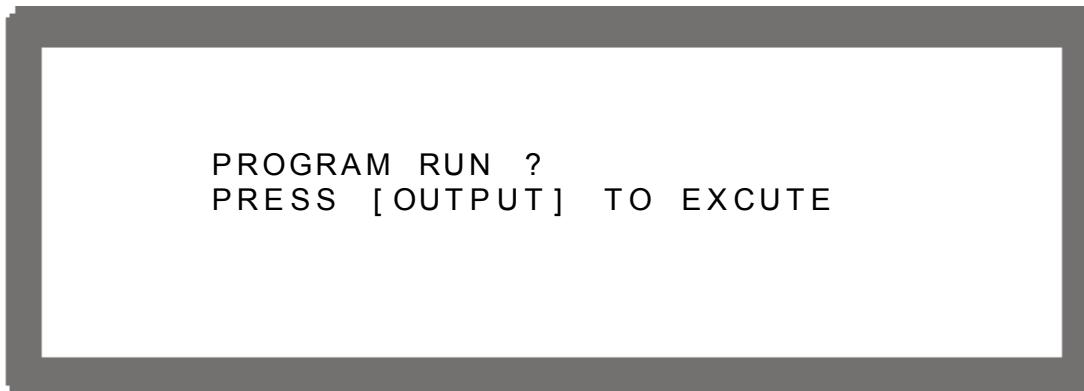

Figure 4-15
1. Pressing “[]” will display a confirmation page as shown in Figure 4-15.
1. Pressing “**OUTPUT**” in the Program page (Figure 4-3) or Sequence page (Figure 4-8) will display a confirmation page as shown in Figure 4-15.
1. Pressing “**OUTPUT**” will display a confirmation window as shown in Figure 4-15.